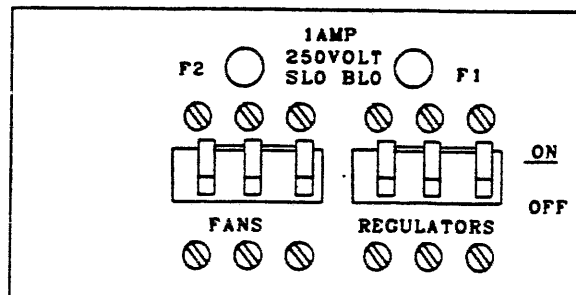

FIGURE 4-9. FANS AND DC REGULATORS CIRCUIT
2. Set the regulators and fans circuit breakers located at S03 to the ON position. See Figure 4-9.